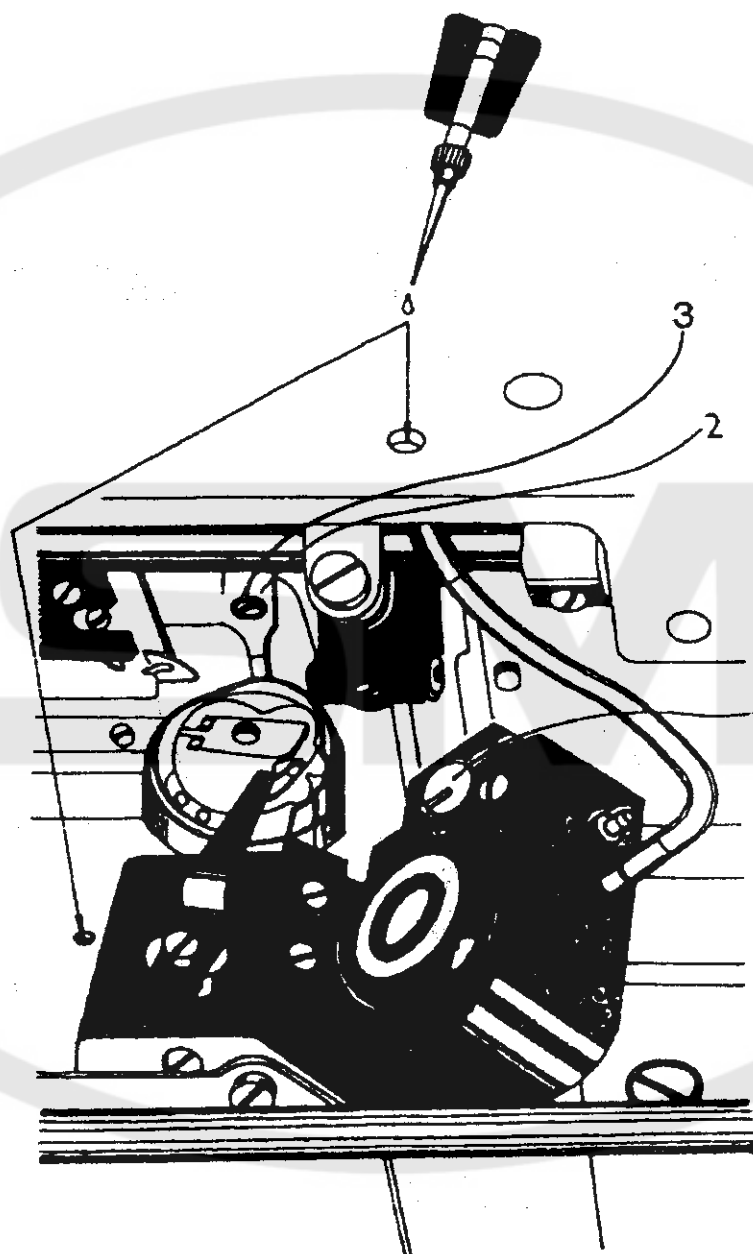

Fig. 2
6. To adjust hook lubrication (Fig. 2)
10. **To adjust the hook holder (Fig. 2)**